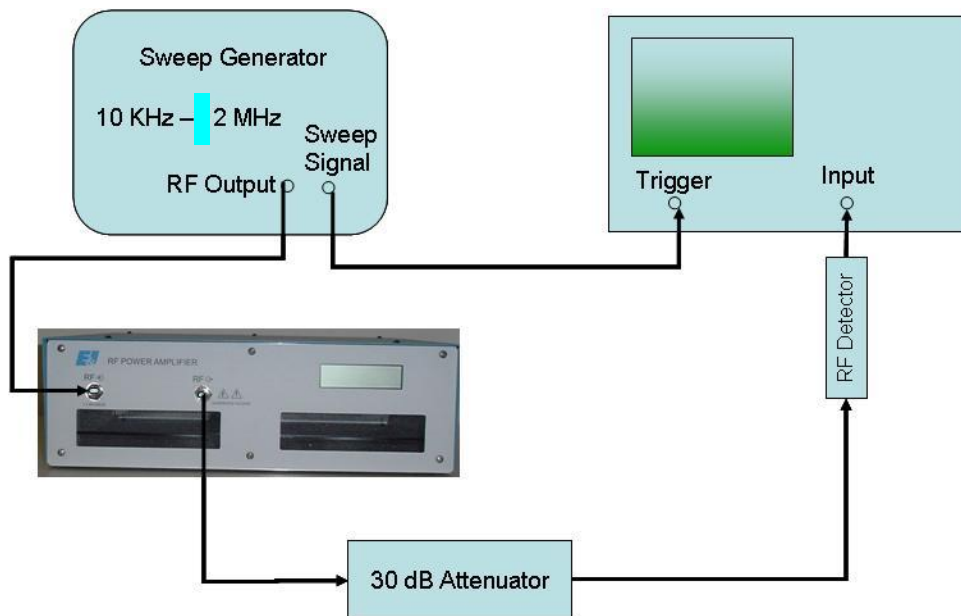

Figure 4-1. Gain Measurement
2. Connect the equipment as shown in Figure 4-1, then proceed as follows:
- g) Reconnect the 1040L into the test set-up of Figure 4-1.